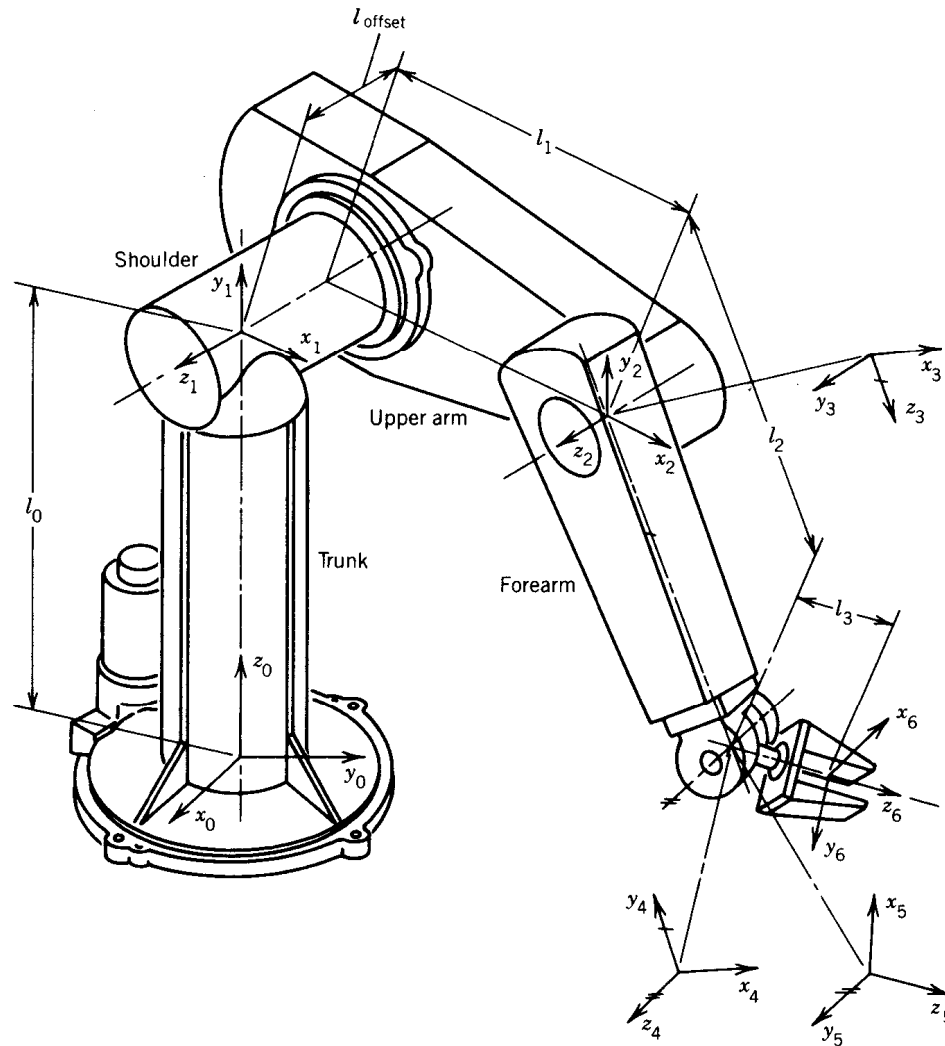

Figure 1 PUMA 600
1. Figure 1 shows a six degree-of-freedom robot manipulator PUMA 600. PUMA stands for “Programmable Universal Machine for Assembly”. It is originally a part of a 1975 development project at General Motors Corp. It was later commercialized by Unimation, Inc. The coordinate axes are assigned to each link according to the Denait-Hartenberg convention.